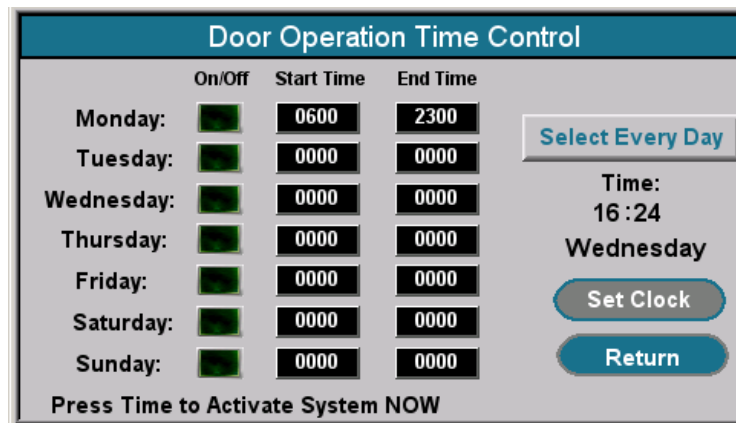

Fig. 8A
The [Clock Control] button will display the door operation time control screen. When the system first turns on, and the clock control button is selected, the single day screen setting will appear (Fig. 8A). At this point, the operator will need to decide if they want to set an open and closed time for each day, or make it the same for every day. See Single Day Setting or Every Day Setting instructions below based on the operator's choice.
1. From the single day screen (Fig. 8A), press the [Select Every Day]